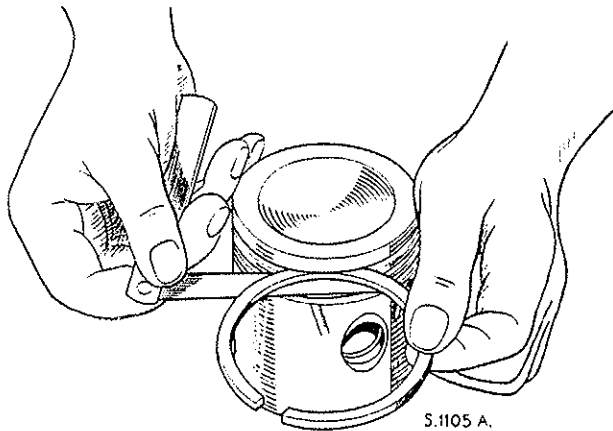

Fig. B.6. Checking piston ring side clearance
- (a) With a feeler gauge check for correct vertical clearance of the rings in the groove, which should be 0.0015/0.0035 in. (0.04/0.19 mm.) for both compression and scraper rings. (See Fig. B.6.).